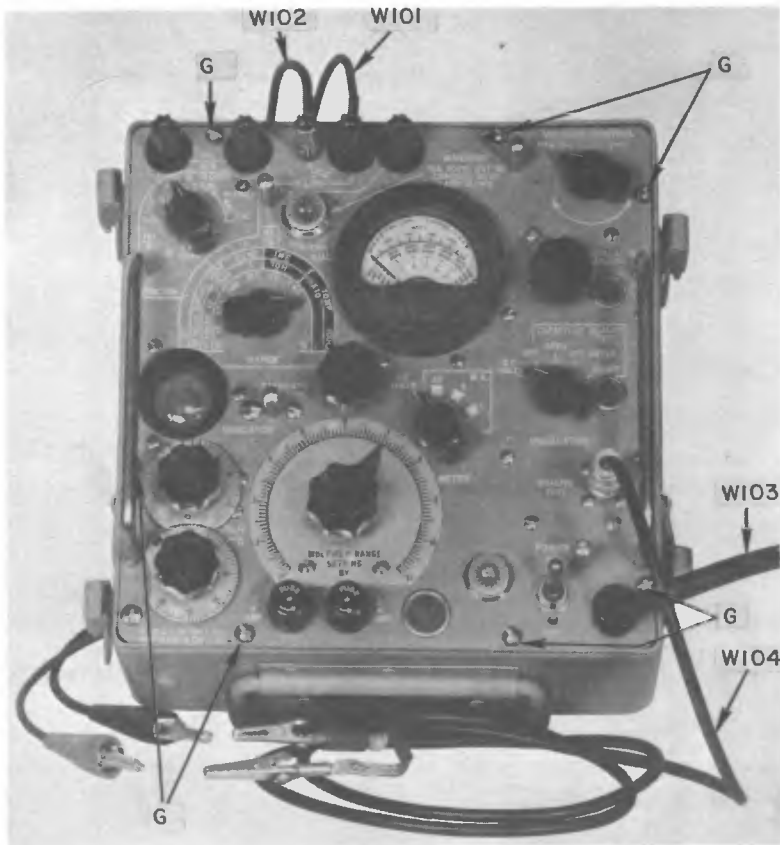

Figure 3-1. ZM-11/U Panel Layout.
a. INTRODUCTION. - The tests and measurements of which the ZM-11/U is capable are numerous and of wide range so it is well to become as familiar as possible with the panel and control layout as early as possible. Figure 3-1 shows a view of the panel and general appearance as set up for operation. The panel